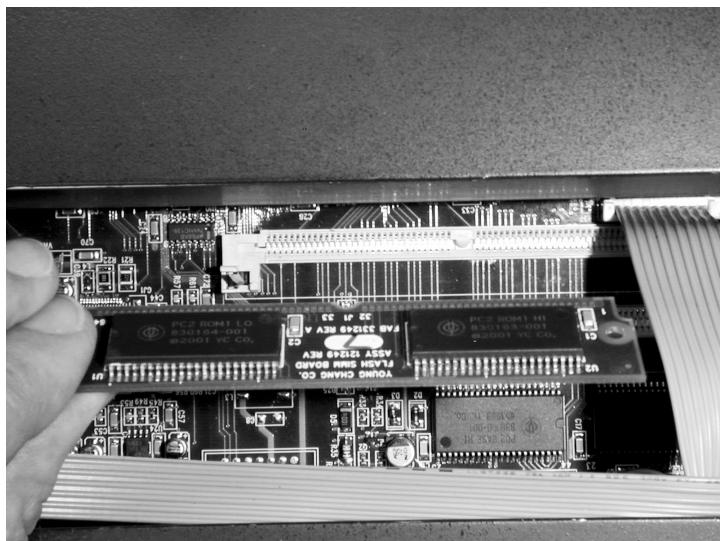

Figure 3 Proper orientation of option board
2. Grasp the board as shown in Figure 3, so that the chips face away from you when you insert the connecting edge of the board into the socket. Notice the semi-circular notch at the center of the connecting edge. This notch aligns with a key on the SIMM socket, and ensures that you position the board correctly in the socket. note that part of the board will be under the ribbon cable shown at the far right in Figure 3.